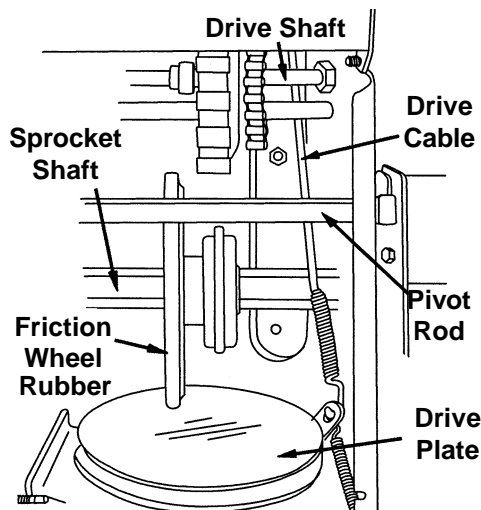

Figure 12
- With the traction control engaged, the friction wheel must contact the drive plate. See Figure 12. If adjustment is necessary:
Lubricate the gear shaft with 6-n-1 grease at least once a season or after every 25 hours of operation (available at automotive stores, or order part number 737-0170). Refer to Figure 12.
Lubricate at least once a season or after every 25 hours of operation. Remove the frame cover, lubricate any chains, sprockets, gears, bearings, shafts, and shifting mechanism at least once a season. Use engine oil or a spray lubricant. **Avoid getting oil on the friction wheel rubber and aluminum drive plate.** Refer to Figure 12.